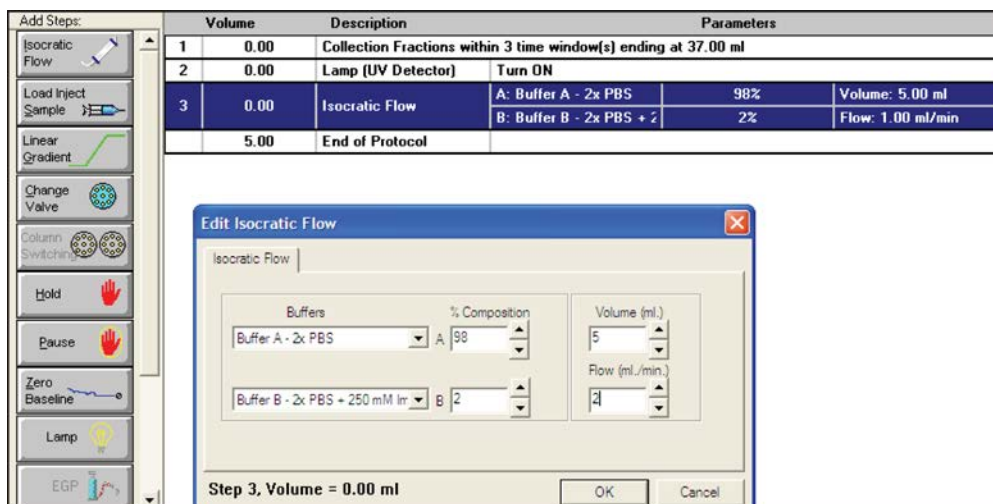

Figure 8.25. Programming Step 3: Equilibrating the column with 2x PBS + 5 mM imidazole for 5 CV at 2 ml/min.
1. Choose Isocratic Flow from the left-side menu. Change the composition of the 2x PBS (Buffer A) to 98%. The % Composition for Buffer B will automatically change to 2%. Change the volume to 5.00 ml and the flow rate to 2.00 ml/min, and then press OK (Figure 8.25).